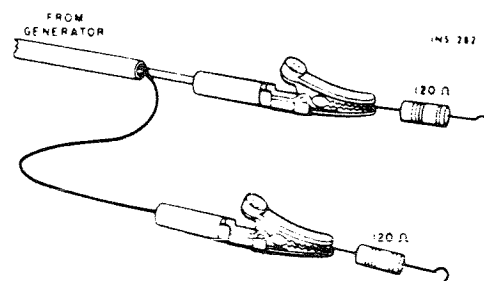

FIGURE 1. CONNECTIONS TO PROVIDE 300-OHM GENERATOR OUTPUT IMPEDENCE. MATCHING RESISTORS REDUCE GENERATOR VOLTAGE BY HALF AT THE ANTENNA TERMINALS.
- Set TUNING dial pointer to zero (0) calibration mark on the logging scale. If the dial pointer does not coincide with the 0 at the extreme end of the knob rotation, reposition the pointer assembly on the dial cord and cement the pointer in place to prevent slippage.
- Connect an RF generator to the NORM antenna terminals. Use a 120-ohm composition resistor in series with each lead from the generator—see Figure 1.